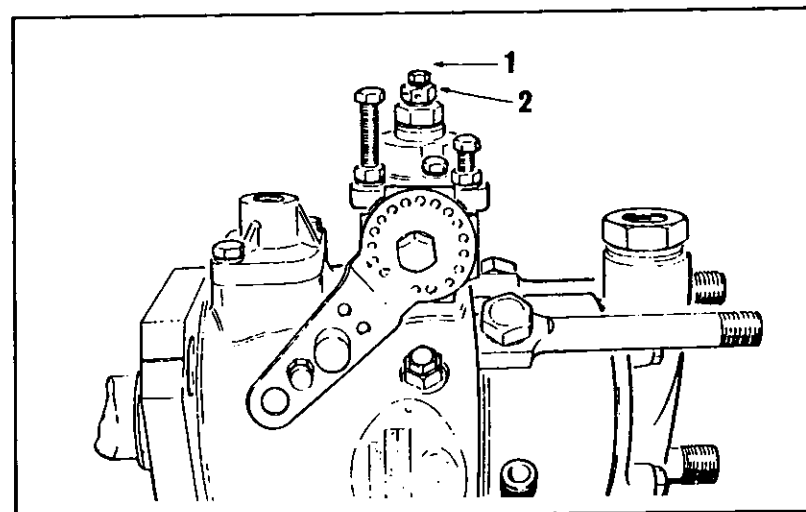

Fig. 18 Vent plug on hydraulic governor
8 For hydraulically governed pumps (see fig. 18). Loosen the vent plug (1) on the governor housing of the fuel injection pump. During this operation ensure that the anti-stall device (2) does not move.